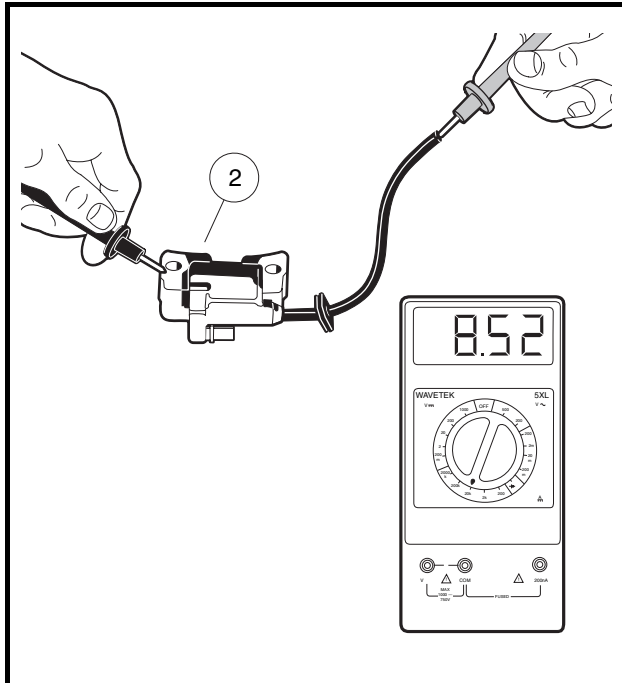

Figure 11-50 Secondary Coil Resistance – Bench Test
- 5.1. Use a multimeter set to 20k ohms and place the red (+) probe of the meter into the end of the spark plug wire and place the black (-) probe on the core (2) (**Figure 11-50, Page 11-39**). If the resistance is between 6.0k - 11.0k ohms, the secondary coil is within acceptable limits. If the resistance is not between 6.0k - 11.0k ohms, the ignition coil has failed and must be replaced.